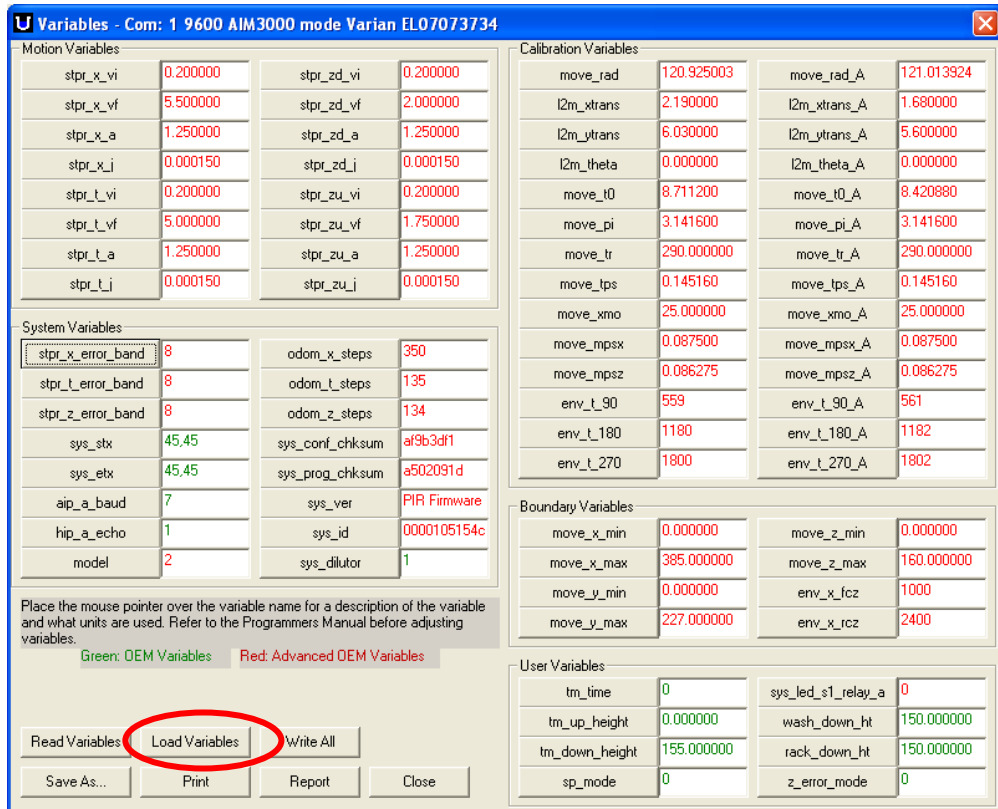
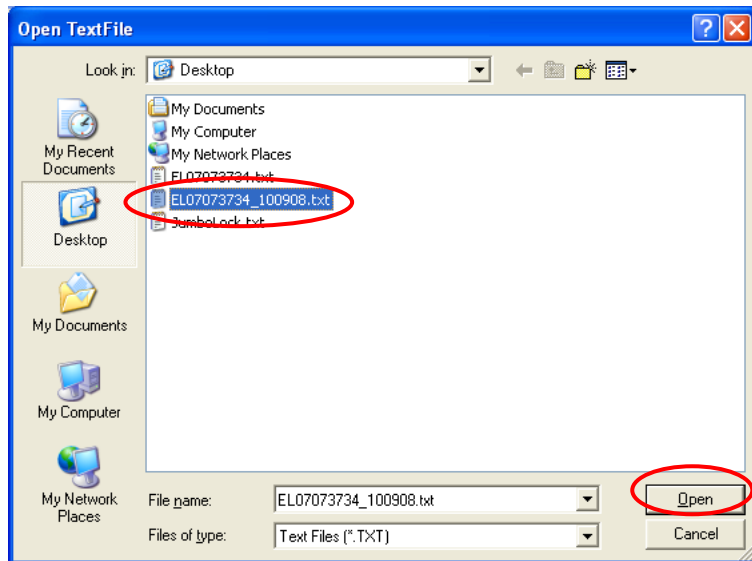
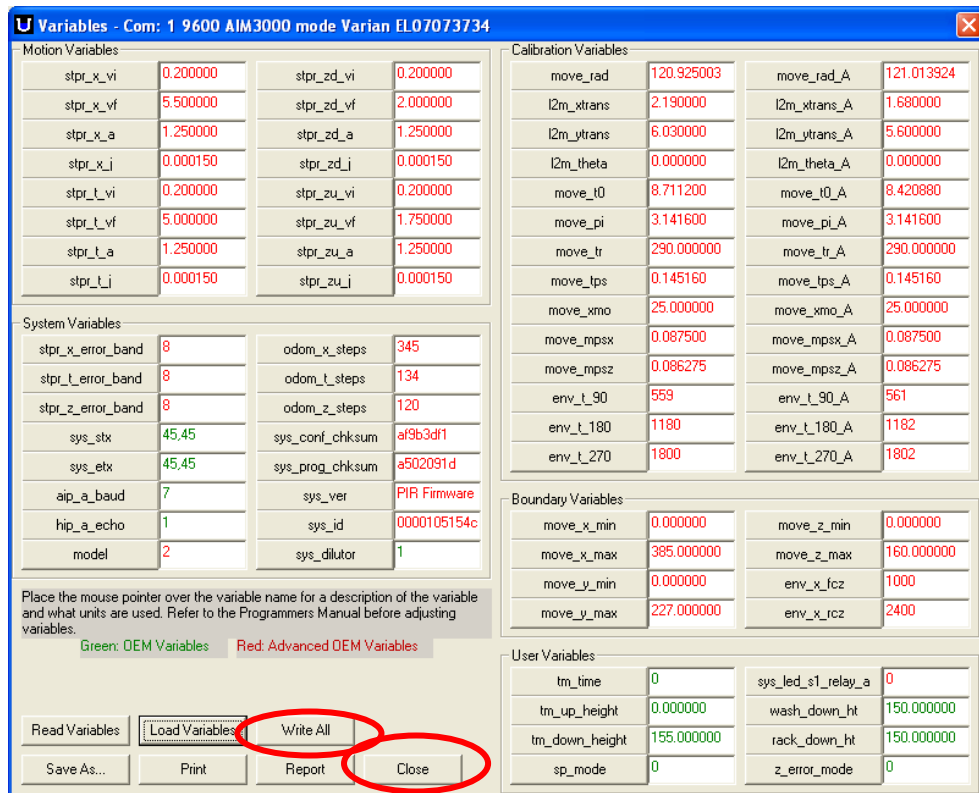

Figure 33. Variables Page
Figure 34. Calibration File Selection
Figure 35. Writing the Calibration to the Firmware
- Click the Load Variables button (Figure 33), and then select the txt file that has the calibration coefficients that you want to load up (Figure 34). It is a good idea to make the variables file name one that reflects the serial number of the Fraction Collector. If you have multiple files, then add a date stamp to your file name to ensure that you can distinguish them from each other.
- Once you have selected the desired file to upload and pressed the Open (Figure 34). You will then need to select the Write All (Figure 35) option to write the variable to the firmware. You can then close the Variables page.